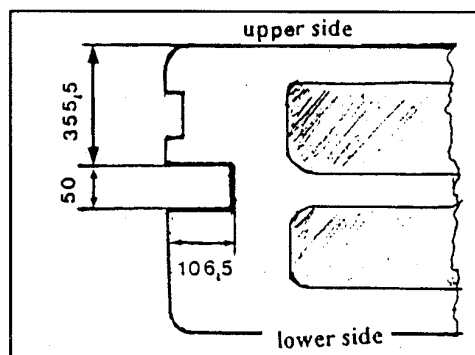

Figure 6
6. Mark " U " shape of the hard board as shown in figure 6. (355.5 mm from upper lining edge, mark cut 50.0 X 106.5 mm)
Using a sharp knife or hacksaw, cut the hard board to the " U " shape as shown in figure 6. Chamfer all cutting edges.